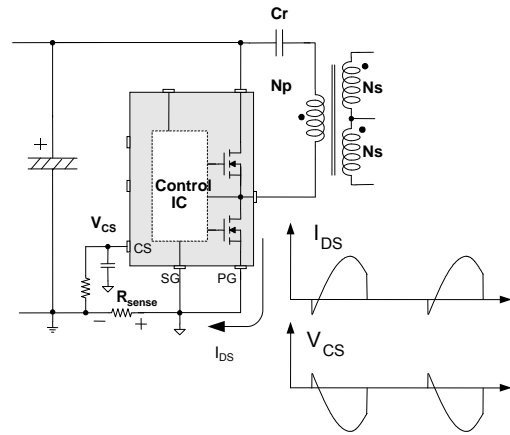

Figure 27. Half-Wave Sensing
8.1 Resistive Sensing Method: The IC can sense drain current as a negative voltage, as shown in Figure 27 and Figure 28. Half-wave sensing allows low power dissipation in the sensing resistor; while full-wave sensing has less switching noise in the sensing signal. For a time constant range for the filter, $3/100 \sim 1/10$ of the operating frequency is reasonable.